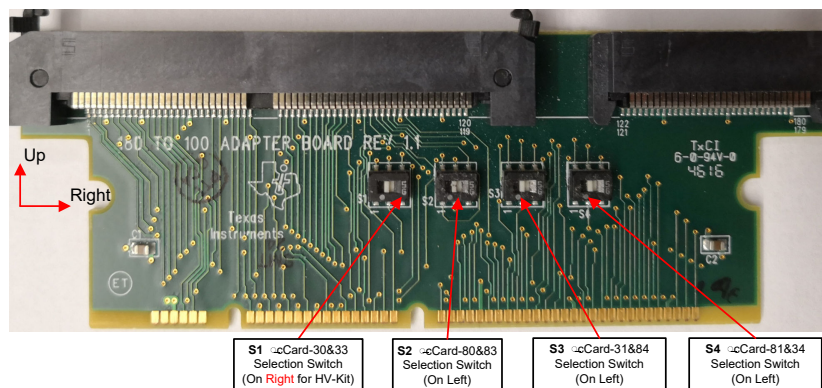

Figure 2-3. TMD5ADAP180TO100 Adapter and Switches Setting
- Make sure that switches **TMD5ADAP180TO100** are set as described below or shown in **Figure 2-3**.